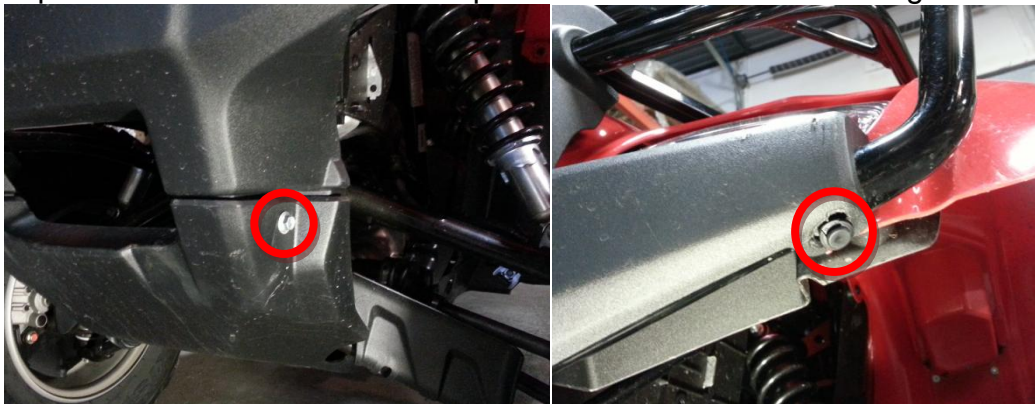

Figure 1
1. Begin by removing the top plastic fender to gain access to the vehicles front end. There are two hex bolts on either side of the fender and two plastic fender clips that must be removed to pull the top fender off. Leave the bottom plastic fender attached. See Figure 1.